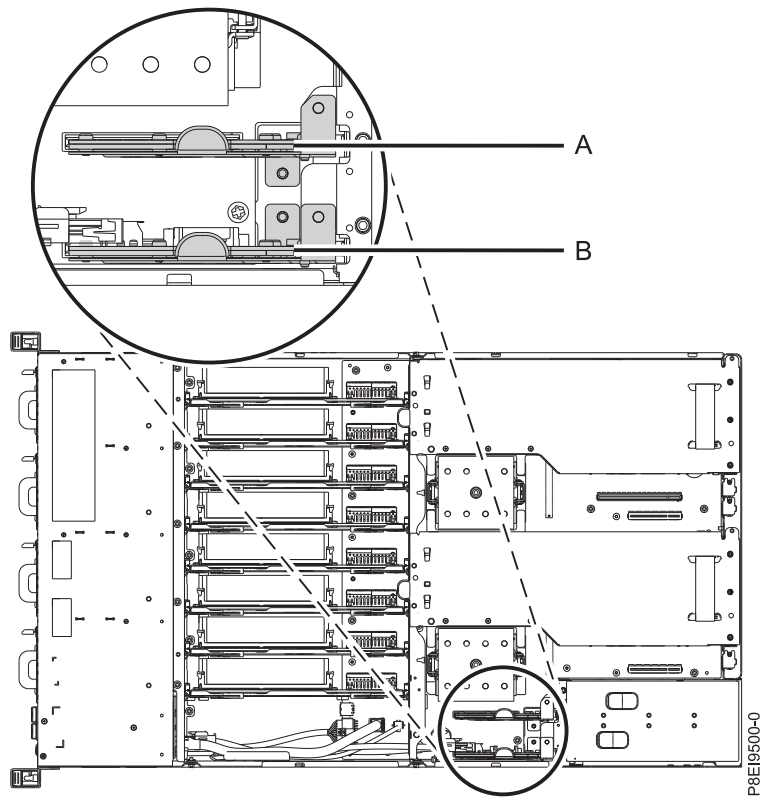

Figure 46. Location of the power risers
3. Locate the power risers. Figure 46 on page 47 shows the location of the power risers in the 8335-GCA or 8335-GTA system. The **(B)** power riser contains the time-of-day battery and the connector for the fan power cable.